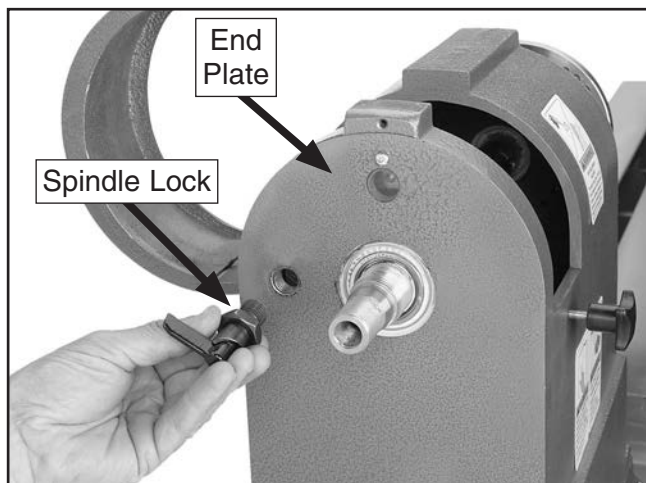

Figure 59. Removing spindle lock mechanism.
5. Unthread the lock nut on the spindle lock mechanism, then remove the unit (see **Figure 59**).